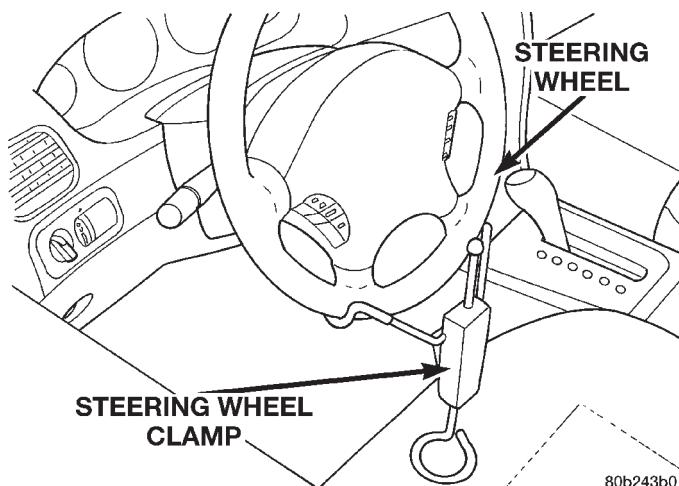

Fig. 21 Steering Wheel Lock Installed (Typical)
(9) Using a steering wheel clamp, (Fig. 21) lock the steering wheel from rotating.
CAUTION: Before removing the steering column coupler from the intermediated steering shaft be sure the steering wheel is locked from rotating (Fig. 21). If the steering wheel is allowed to rotate freely after it is disconnected from the intermediated shaft, the clockspring will be damaged and will need to be replaced.
(14) Install the master cylinder on the vacuum booster. Install the 2 nuts attaching the master cylinder to the vacuum booster. Tighten the master cylinder mounting nuts to a torque of 28 N·m (250 in. lbs.).
(15) Remove the clamp from the steering wheel (Fig. 21).